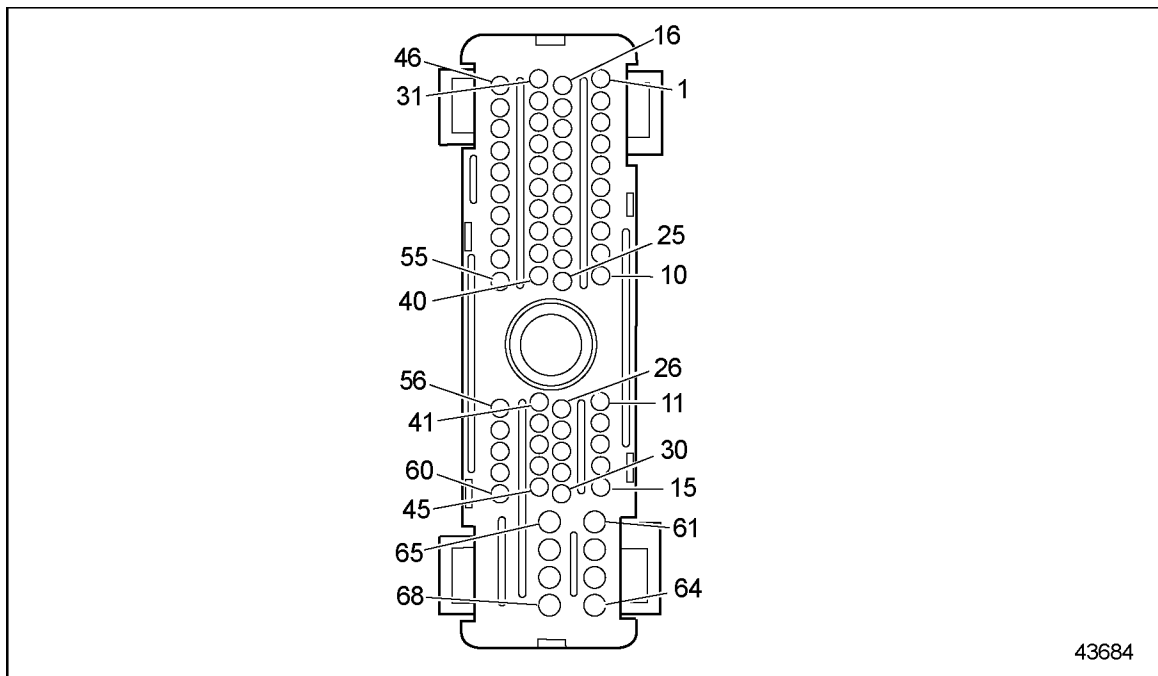

Figure 26-5 ECM/ECU Vehicle Harness Connector
3. Measure resistance between socket V-13 on the vehicle harness connector and the power sockets V-61 and V-65. See Figure 26-5.
4. Check terminals at the ECM/ECU harness connector (both ECM/ECU and harness side) for bent, corroded and unseated pins or sockets. See Figure 26-5.